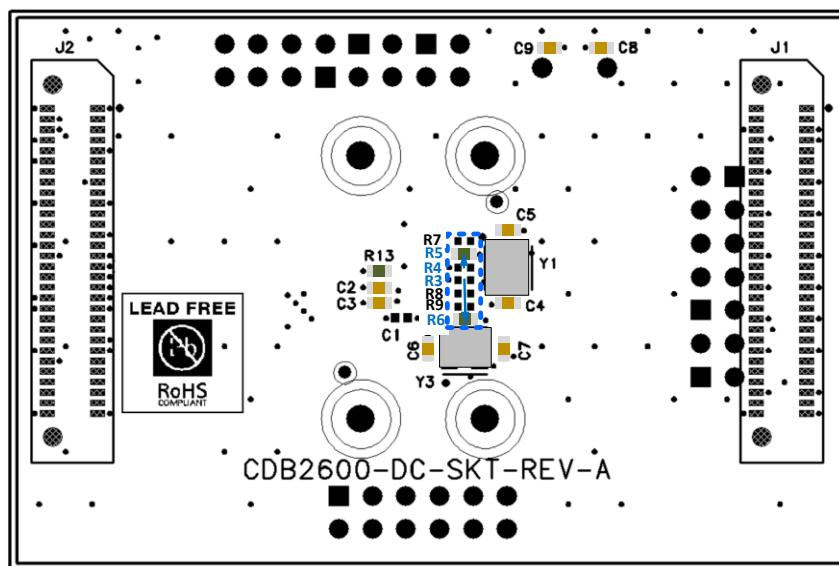

Figure 28 Daughter Card with Crystal Y3 as Reference Clock Option (R5 and R6)
- The REF_CLK can be provided from the 12 MHz crystal Y3 on the daughter card. The part number of the crystal is *ECS-120-8-33Q-RES-TR* (SMD/SMT crystal); further information can be found in the crystal datasheet. The daughter card configuration is R5, R6 populated (0 Ω); R3, R4, R7, R8, R9 non-populated. The configuration is illustrated in Figure 28.